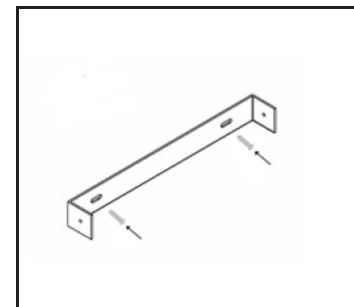

Fig. 2c
- l. Determine the desired location for mounting the duct cover bracket and secure it with the (2) screws provided. (**Fig. 2c**)